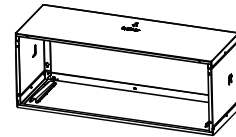

Fig. 4
- Turn the SLEEVE as shown below. (See Fig.4)